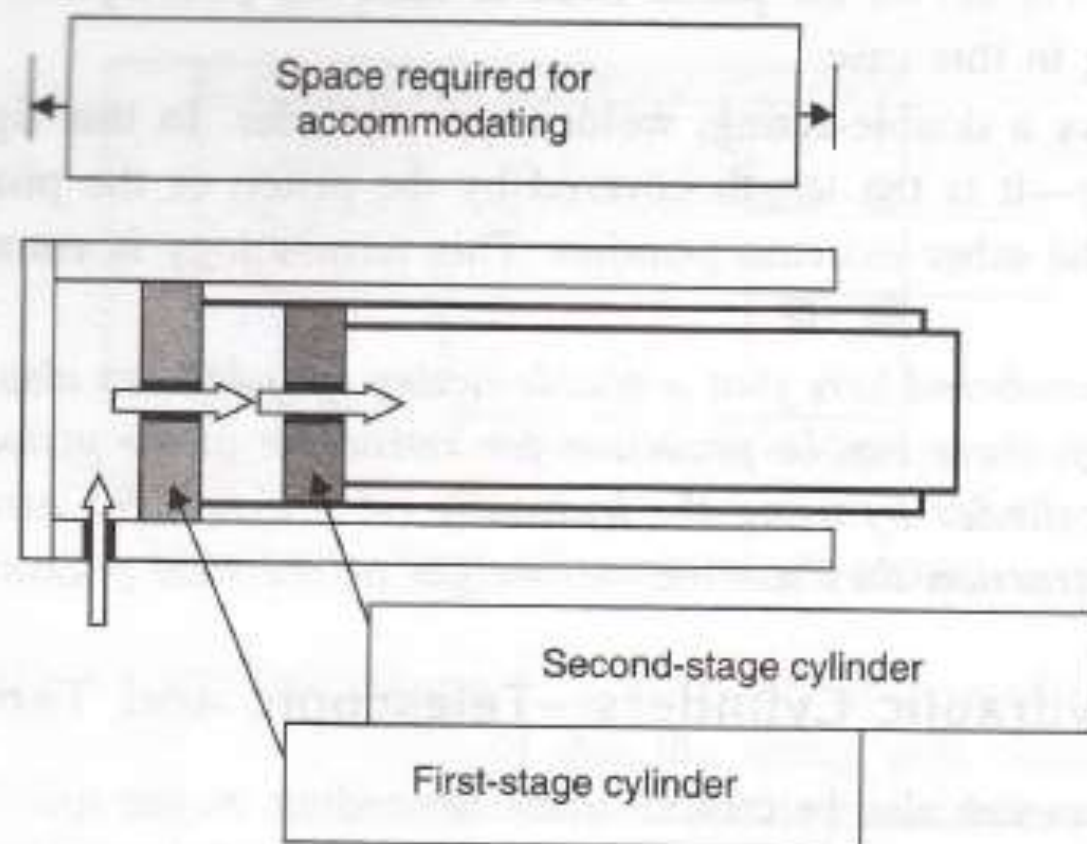

Figure 4.11 Telescopic cylinder.
In the telescopic cylinder (Figure 4.11), the oil enters through the outer cover of the cylinder and pushes open the first stage of the cylinder, then the oil entering the second stage pushes open the second stage of the cylinder and makes the piston rod extend further.
3. We have illustrated a two-stage telescopic cylinder in Figure 4.11. The number of stages can be more than two and the manufacturer's catalogue should be consulted for the maximum number of stages available.